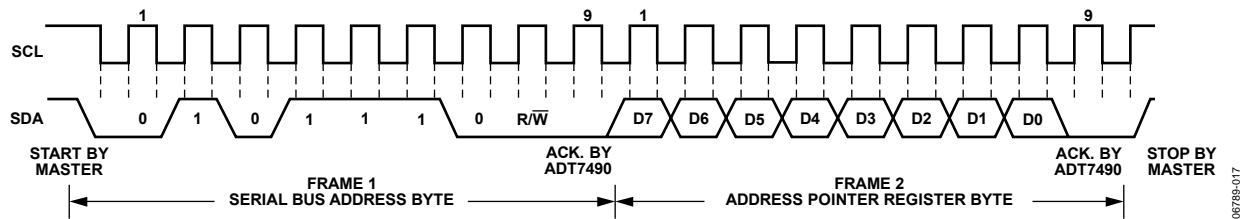

Figure 20. Writing to the Address Pointer Register Only
- If the ADT7490 address pointer register value is unknown or not the desired value, it must first be set to the correct value before data can be read from the desired data register. This is done by performing a write to the ADT7490 as before, but only the data byte containing the register address is sent because no data is written to the register. This is shown in Figure 20.